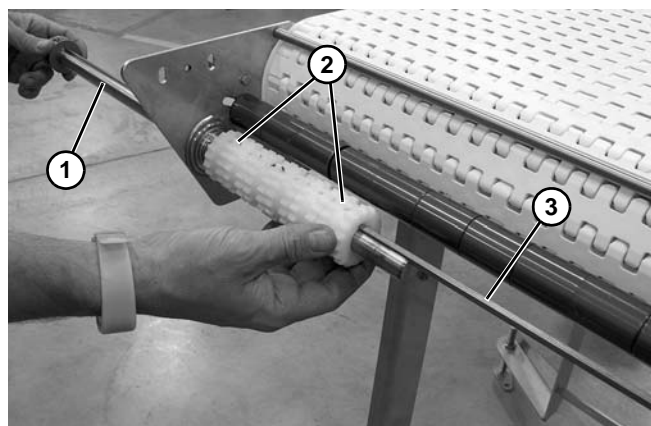

Figure 71
15. While removing drive shaft (**Figure 71, item 1**), slide drive sprockets (**Figure 71, item 2**) and shaft key (**Figure 71, item 3**) from shaft.